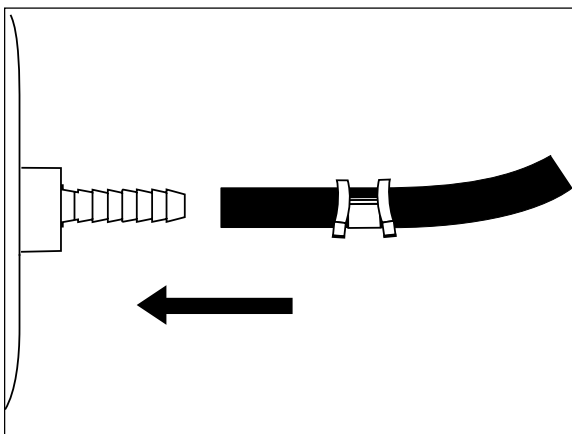

Figure 5
- C. Connect the air line to the two opposite legs on the tee (Figure 5).
- E. Slide air line clamp onto the air line. Push the air line over the barbed end of straight fitting. Compress the ears on the air line clamp with pliers and slide it down to cover the barbed section (Figure 5). Repeat for other side.
- C. Slide air line clamp onto the air line. Push the air line over the barbed end of straight fitting. Compress the ears on the air line clamp with pliers and slide it down to cover the barbed section (Figure 5). Repeat for other side.